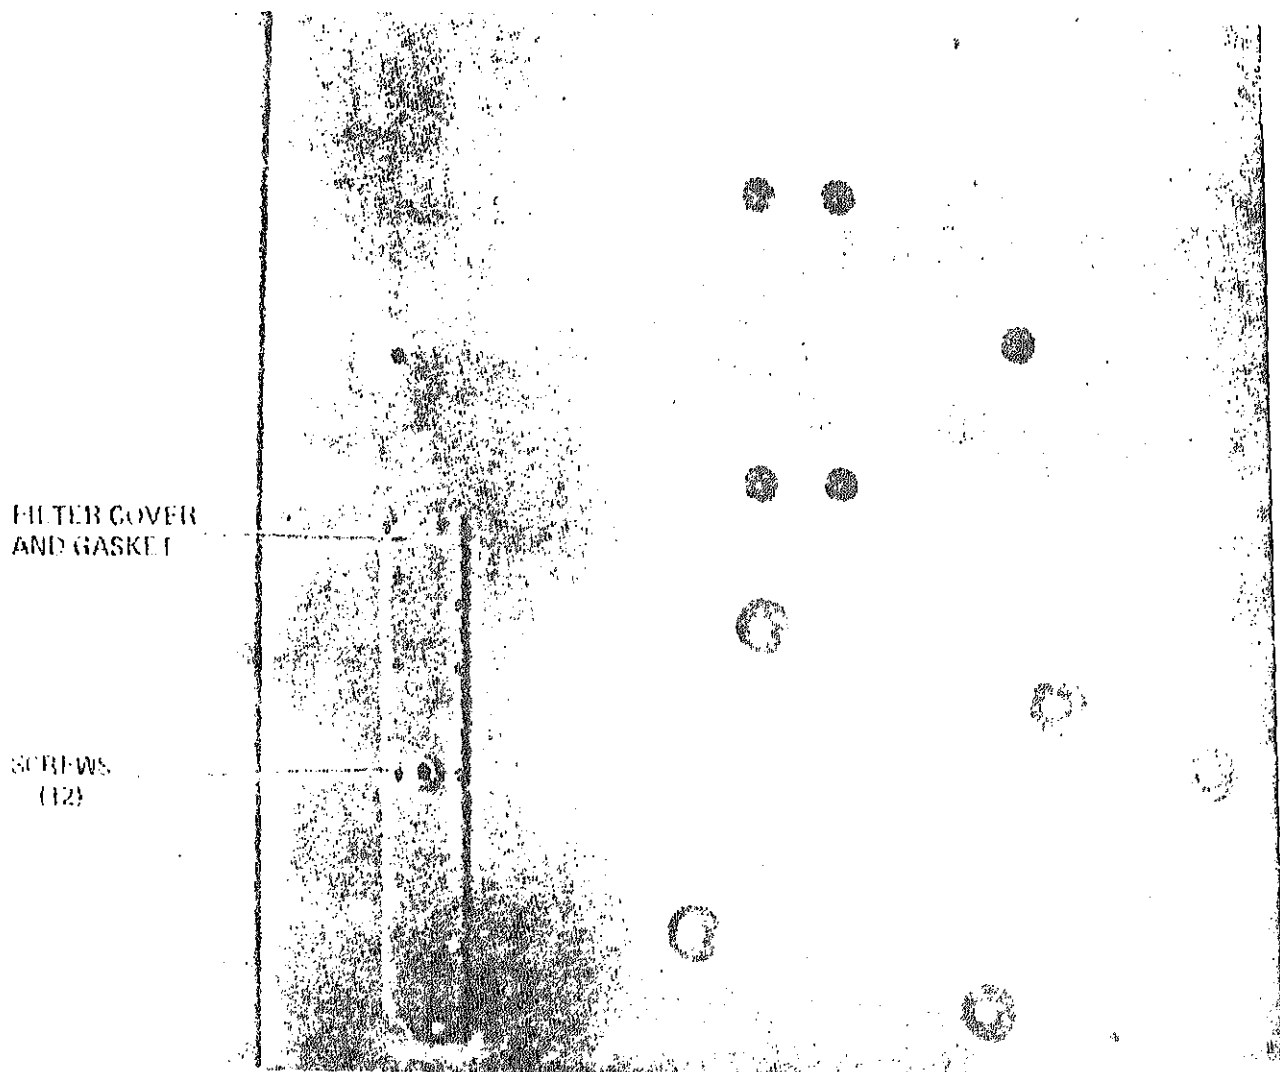

Figure 5-1. Air filter, removal and installation.
(13) Remove eight screws securing frame from base and remove frame from base.
(14) Discharge refrigerant system (para. 5-6*b*).
(15) Remove two refrigeration lines from evaporator coil.
(16) Remove six screws securing evaporator coil.
(17) Remove four screws (fig. 5-1) from bottom of air conditioner and remove evaporator coil.
(1) Remove filter cover (fig. 5-1) and secure with 12 screws by removing twelve screws.
(1) Slide air filter up into air conditioner.
(2) Install gasket (fig. 5-1) and filter cover and secure with twelve screws.